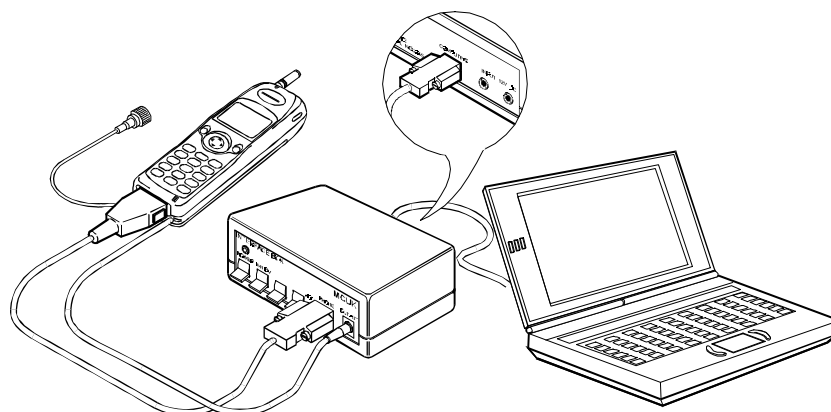

Figure 7: External test equipment setup
- 1. (Figure 7) Connect together the test equipment.